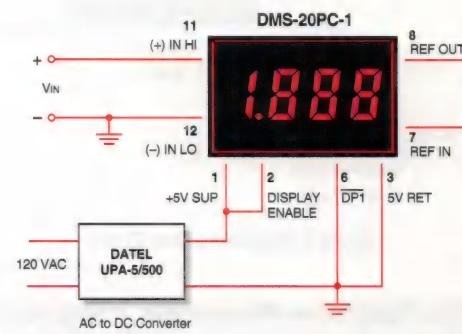

Figure 2. Single-Ended Input Configuration
1. Single-Ended Input Configurations: True single-ended measurements can be made with any DMS-20PC meter. The circuit of Figure 2 avoids problems normally associated with ground-loop currents. Separate ground runs should be used for 5V RETURN (pin 3) and (-) INPUT LO (pin 12).